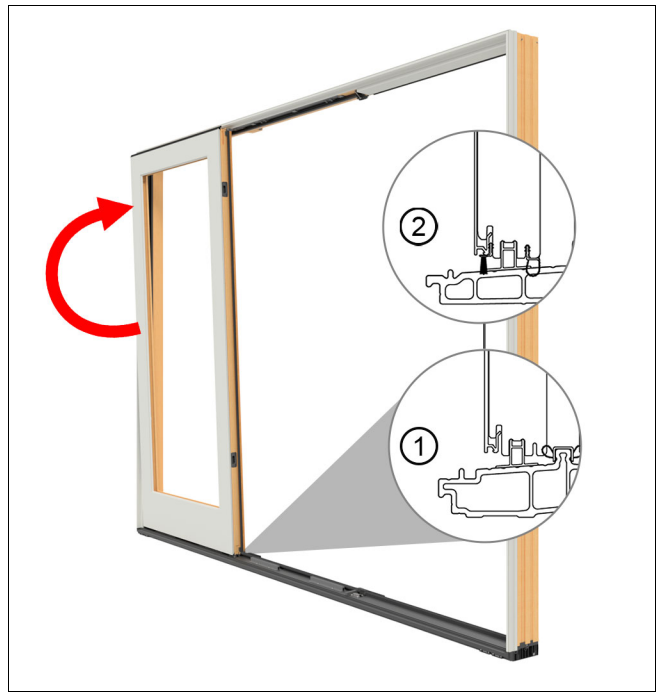

Figure 55
4. From the exterior set the stationary panel (with interlock) onto the sill stationary blocks, close to the jamb. The block corresponds to a groove in the bottom of the panel. See Figure 55.